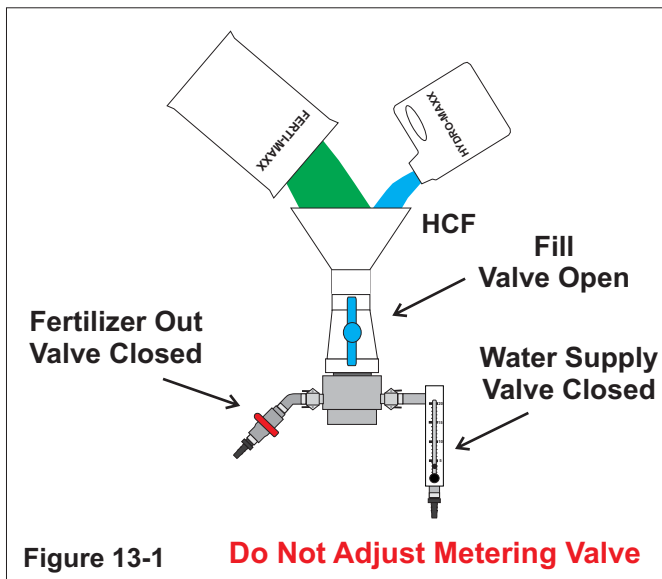

Figure 13-1
Step 2- Open the fill valve and attach the High Capacity Funnel (HCF, Optional) (Figure 13-1)
Step 3- Add the desired amount of products (Figure 13-1)